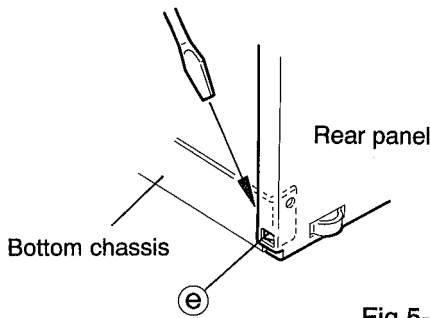

Fig.5-12
6. Use a screwdriver, etc., to disengage the two engagements bottom chassis clips ③ and ④ from the bottom part of the side panels of the rear panel assembly. (See Figs. 5-12, 5-13)